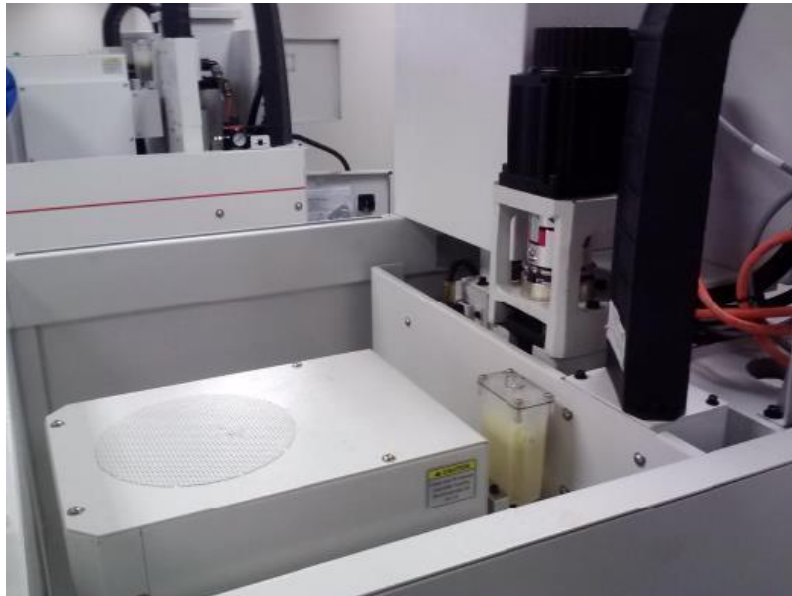

Figure 6.1.3.1a
2. If the machine can be jogged under power, lower the Z axis so the sheet metal clears access to the motor coupler as shown in Figure 6.1.3.1a.